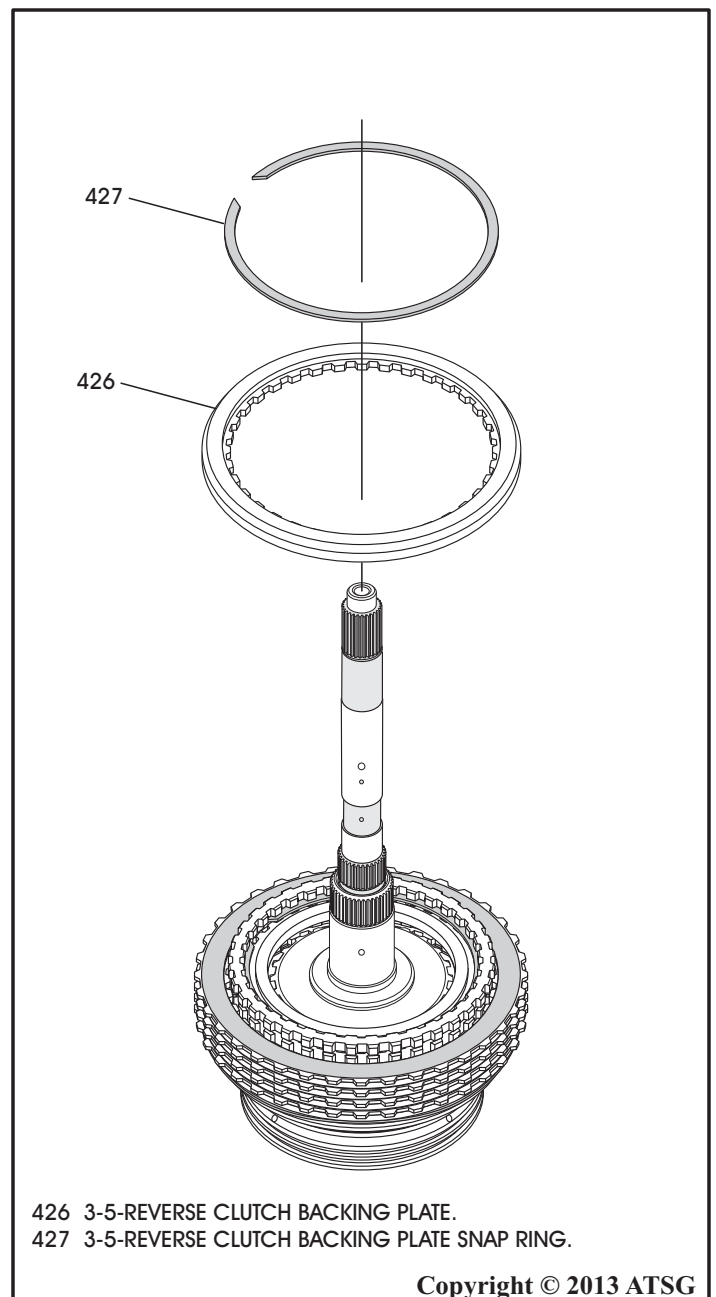

Figure 156
44. Install the 3-5-Rev clutch backing plate with the flat side facing down, as shown in Figure 156.
45. Install the 3-5-Rev clutch backing plate snap ring, as shown in Figure 156, and ensure fully seated.